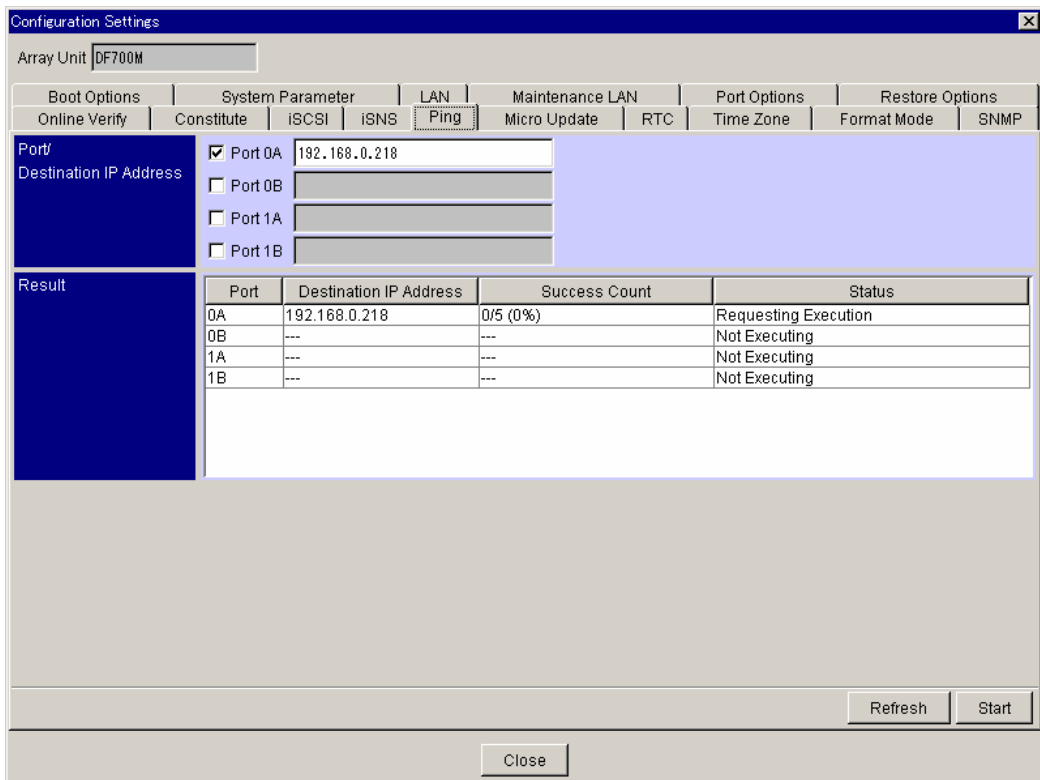

Figure 5.51 Pinging Initiator Host
2. Click the **Ping** tab (see Figure 5.51). For a detailed description of the **Ping** tab, refer to section 5.1.12.